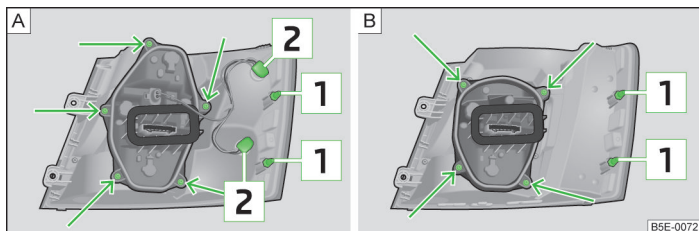

Fig. 221 Outer part of the light: Basic light/light with LED diodes
- Carefully press the tail lamp assembly into the bodywork so that the bolts [1] » Fig. 221 on page 238 on the light latch with the mounts in the body » **!**.
- Turn the bulb holder **2** » Fig. 221 **anti-clockwise** remove it from the lamp housing.
- Unscrew the lamp holder » Fig. 221 - **A** or **B** with the screwdriver from the car tool kit, and remove the lamp holder from the tail light assembly.
- Turn the bulb holder **anti-clockwise** up to the stop and remove it from the lamp housing » Fig. 221 - **C** or **D**.